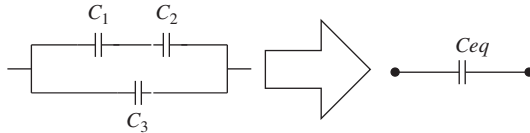

Figure P2.11 Series-parallel combination of two capacitors.
- 2-11.** The equivalent capacitance C_{eq} of three capacitors connected in series-parallel as shown in Fig. P2.11 is given by